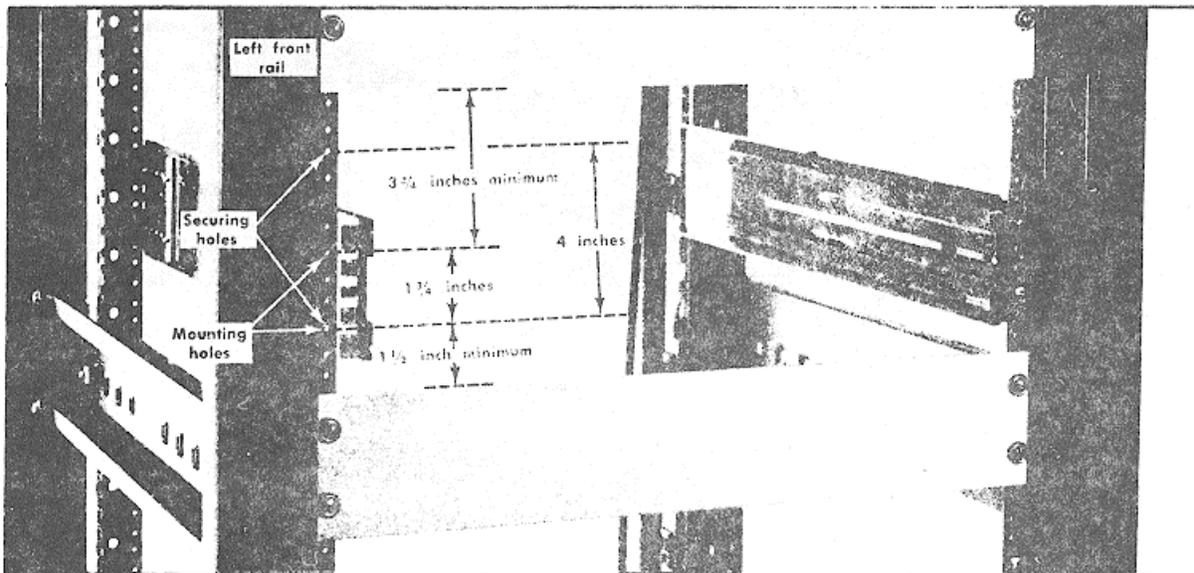

Fig. 11-7. Vertical mounting position for front end of slide-out tracks. Left stationary section (only) is shown.
1. Referring to Fig. 11-7 select the proper front-rail mounting holes for the stationary sections.